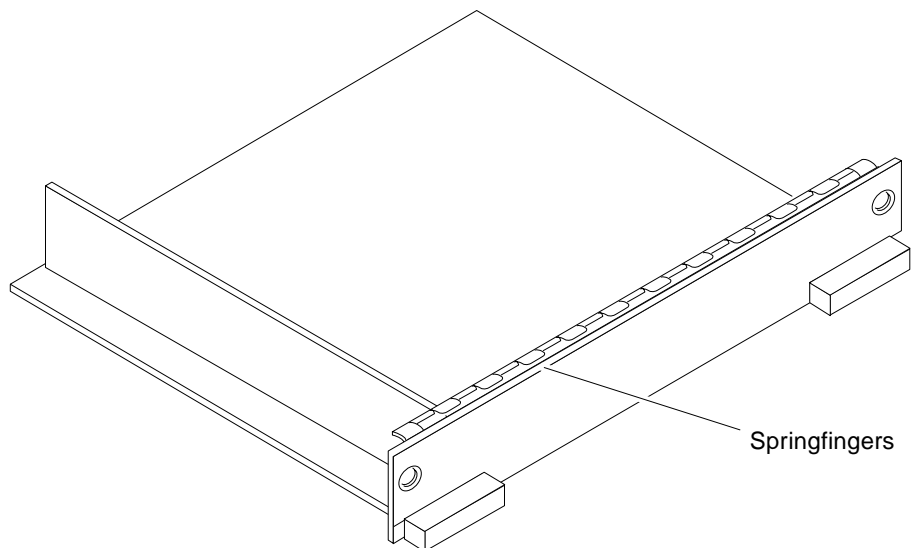

FIGURE 4-1 Filler Panel (Enterprise 5500/4500 Systems Only)
- Empty slots in Enterprise 5500 and 4500 systems must have a filler panel installed (FIGURE 4-1).